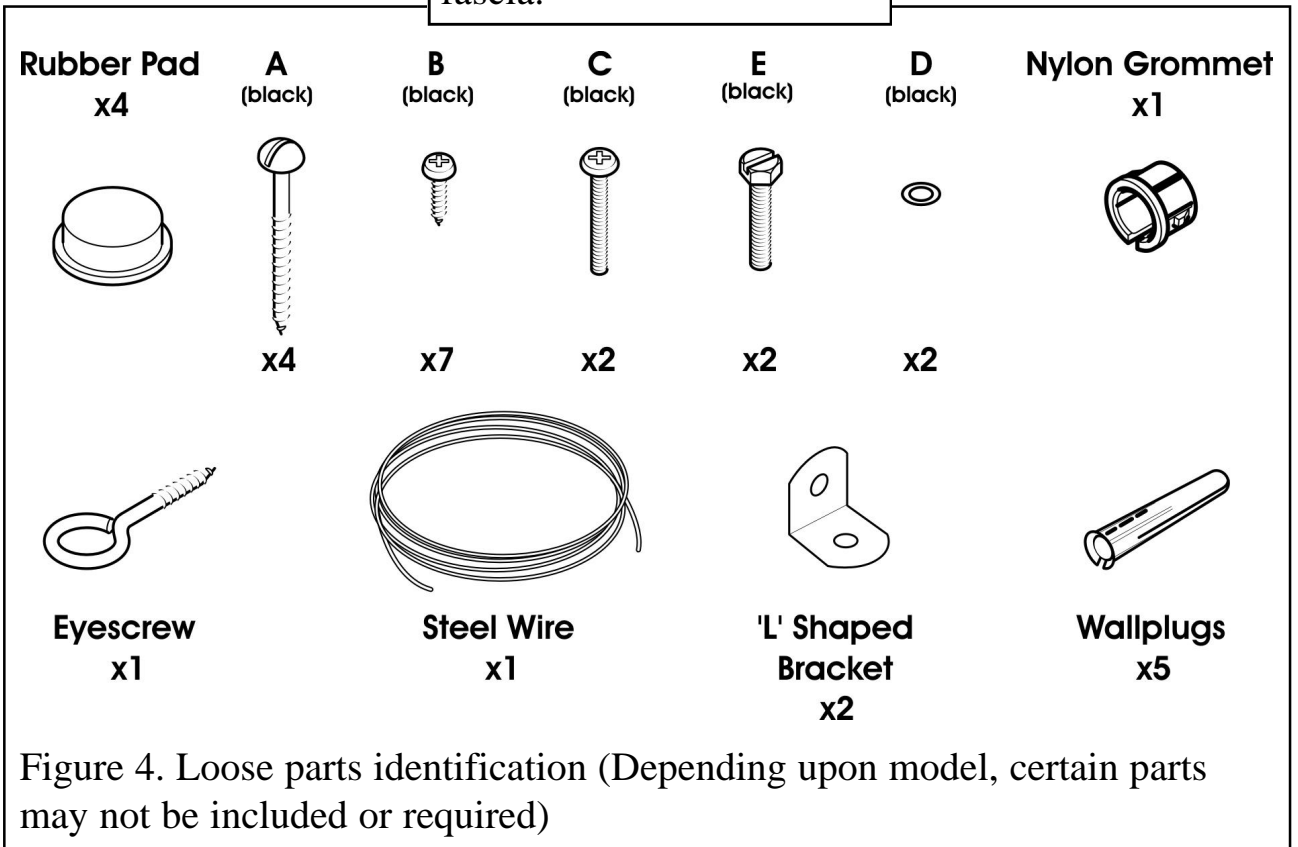
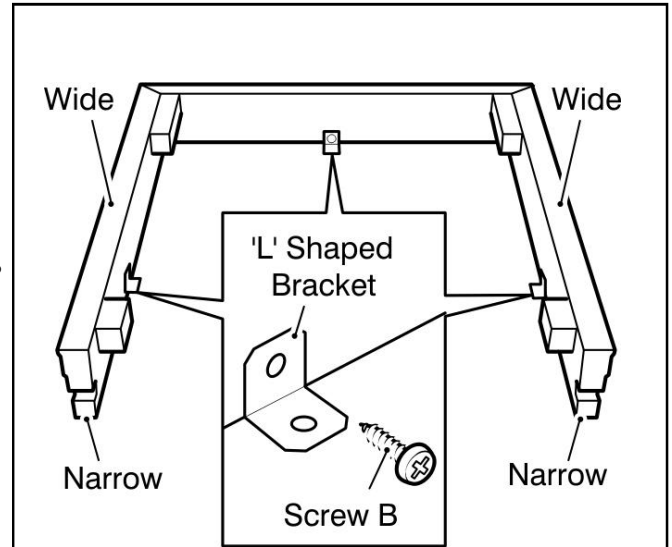
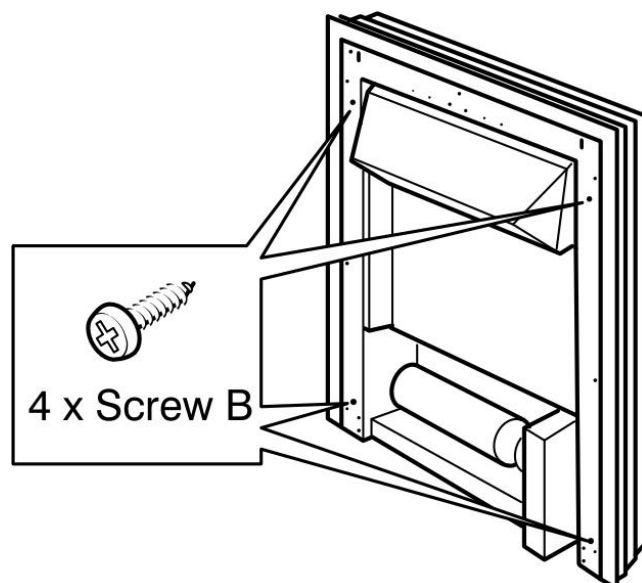

Figure 4. Loose parts identification (Depending upon model, certain parts may not be included or required)
Figure 8. Bracket positions
Figure 10. Fixing the Heater to the spacer frame.
2. For drilling into brickwork you will need an electric hammer drill and appropriate size drill bit for the wall plugs supplied (See figure 4).
All fixings supplied with the heater have been identified in figure 4.
6. Screw and secure the heater with two 'A' screws (See figure 4).
1. The fixing kit supplied with the heater includes a steel wire and eyescrew (See figure 4). These can be used to secure the heater to the back of a fireplace opening.
1. There are three 'L' shape brackets supplied with the heater (See figure 4). To fix the brackets to the spacer frame there are three 'B' screws (See figure 4). The spacer frame has a stepped outer. The rear of the spacer is the narrow side - when positioned against the wall or fixing surface the steps should widen as they come closer to you. Position and screw the 'L' shaped brackets to the rear of the spacer frame as shown in figure 8.
7. Screw and secure the spacer frame with three 'A' screws (See figure 4).
8. Place the heater centrally against the spacer frame. The heater has holes in its left side, right side and top. Secure the heater to the spacer frame through the four hole positions as in figure 10 using four 'B' screws (See figure 4).